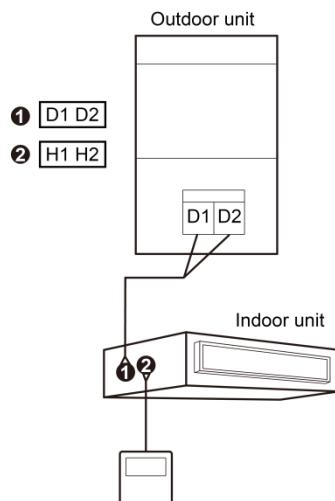

Fig.3.6 One wired controller controls
- (1) Floor standing indoor unit only applicable to Fig.3.6.
- (2) Wired controller XE7A-24/HC only supports one (or more) indoor unit(s) controlled by one wired controller.